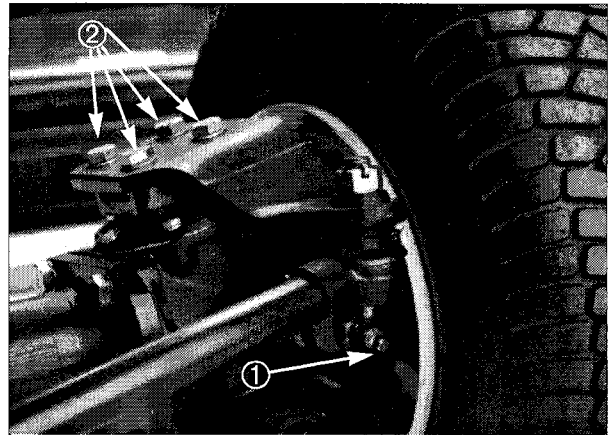

Figure 7.
2. Remove a check plug from each end of axle and make sure the lubricant is up to bottom of the hole. If the level is low, remove a mounting bolt above each end plug and add enough lubricant to bring the level up to the bottom of the hole (Fig. 7).